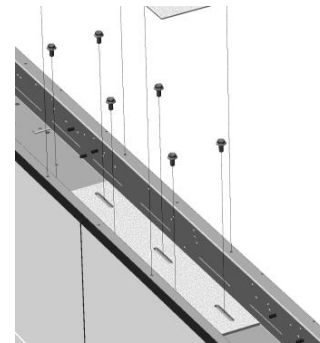

Figure 42
Attach the slotted base plate to the middle of the core wall's top channel with (6) ¼-20 x ½" hex head self-tapping screws. (Depending on your configuration, it may be necessary to drill .218" (7/32") holes into the top channel for the plate mounting screws.) Then attach the upper pole support to the channel with (4) #10 x ¾" Phillips head self-tapping screws. See figure 42.